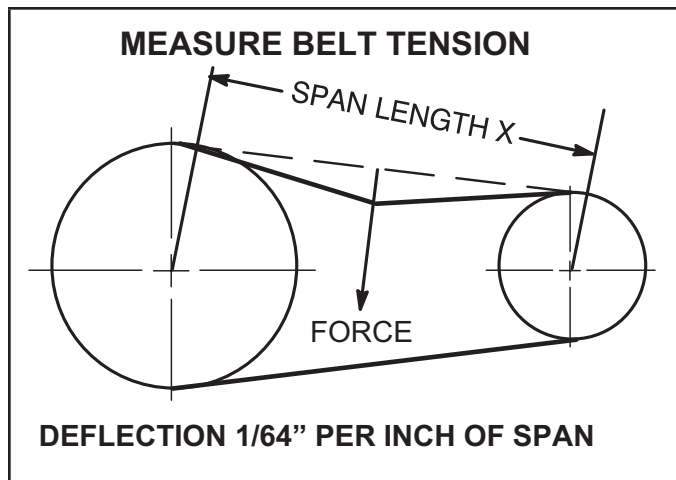

FIGURE 17
1. Measure span length X. See FIGURE 17.
2. Apply perpendicular force to center of span (X) with enough pressure to deflect belt $\frac{1}{64}$ " for every inch of span length.